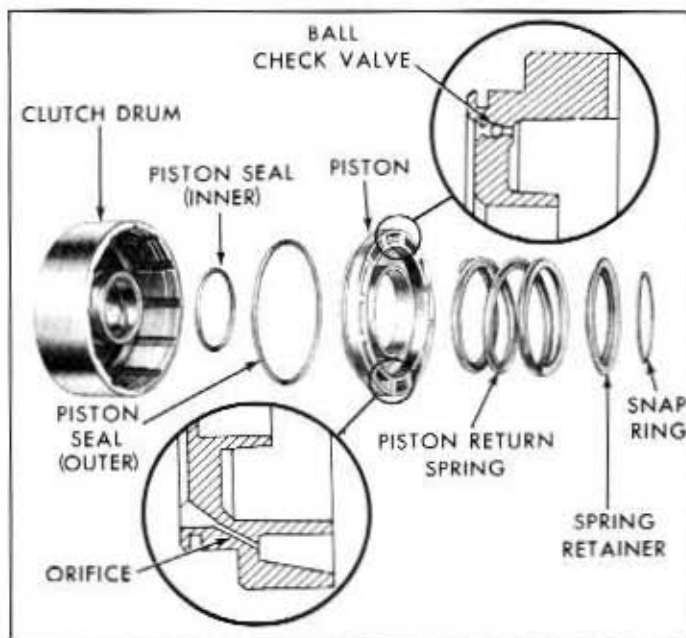

Fig. 7A-25—Clutch Drum and Piston—(60C-4425)
- Inspect the clutch piston ball check valve for free movement and proper seating. Make sure the orifice in the clutch piston is open. Refer to figure 7A-25.